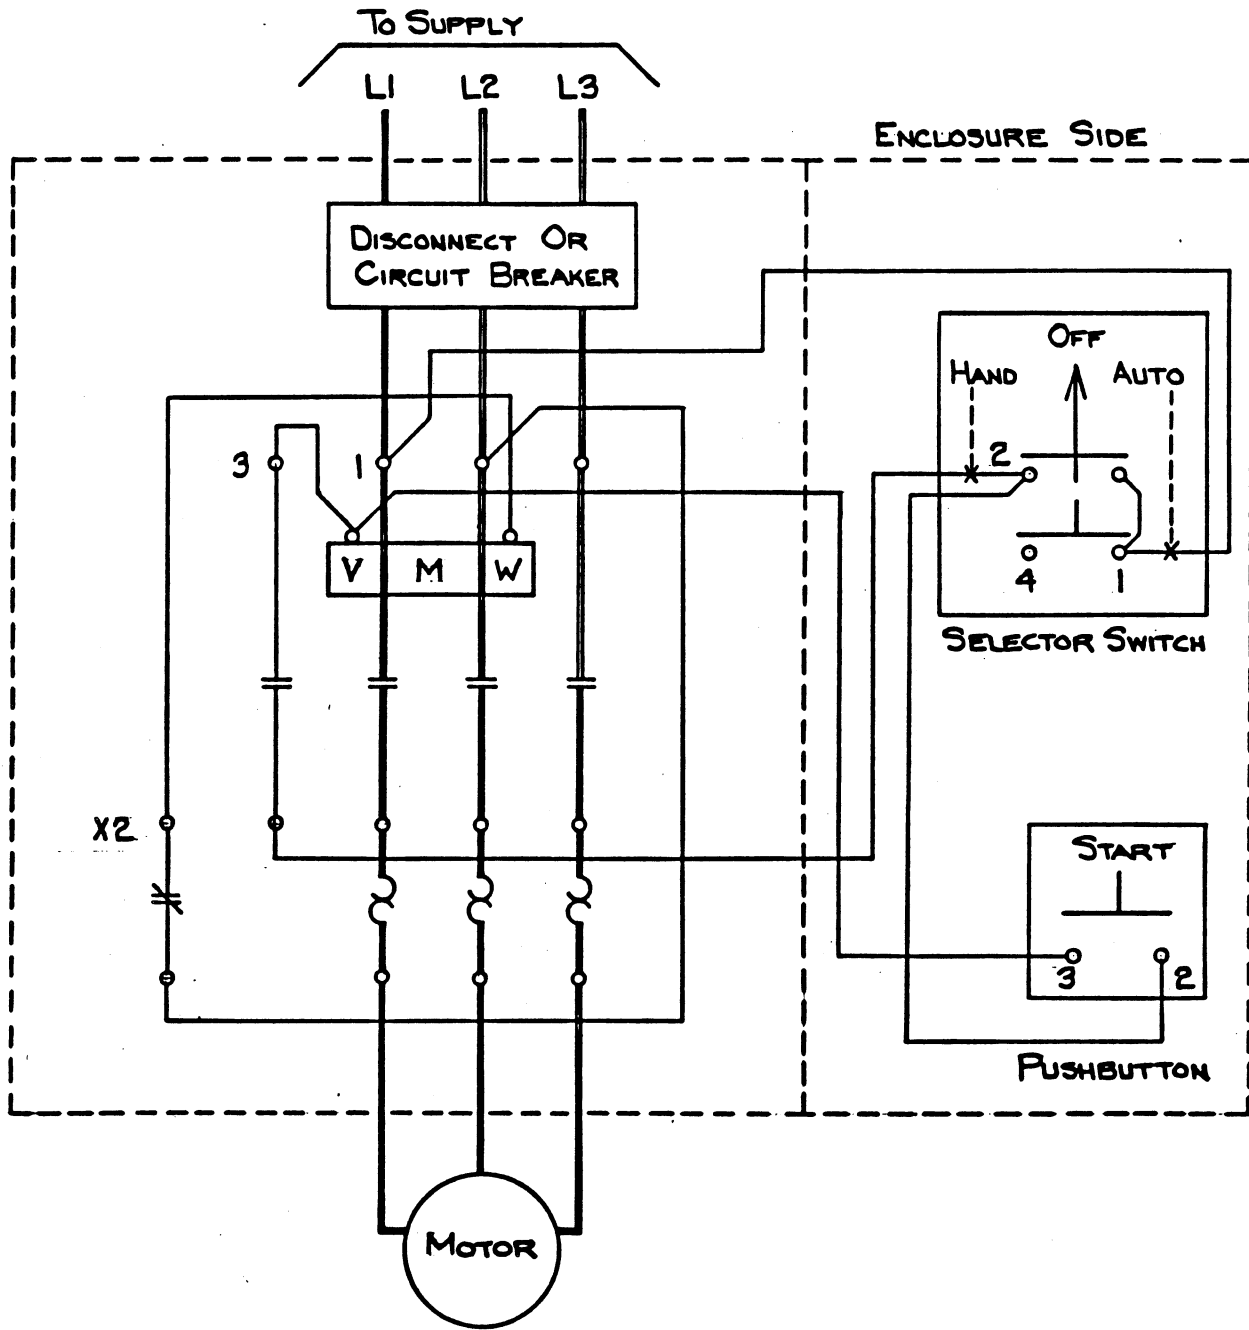
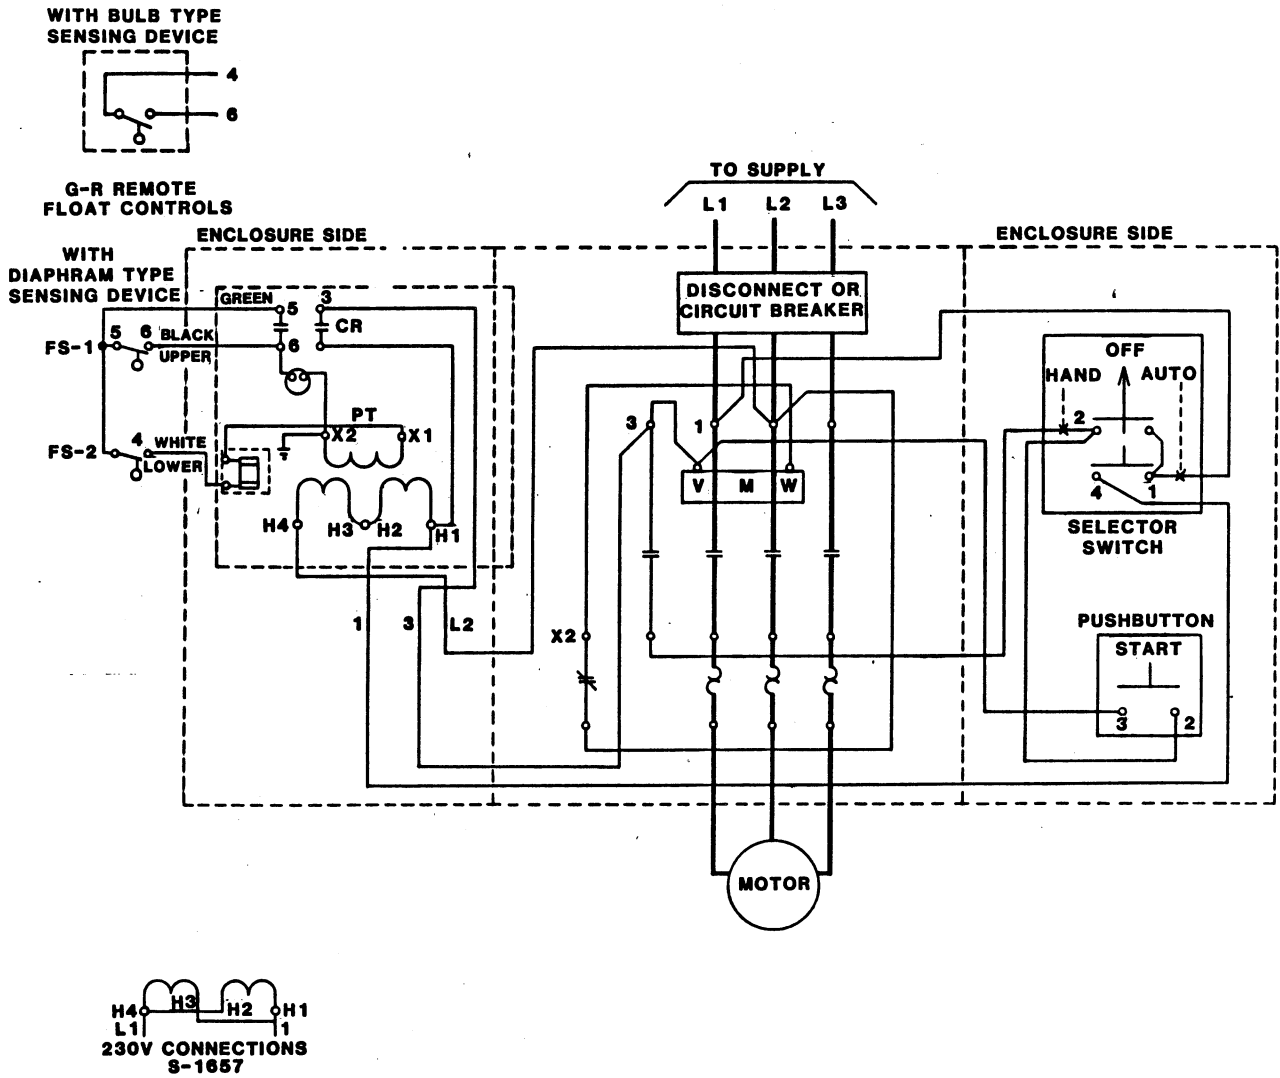

Figure 7. Control Box Wiring Diagram (Without Liquid Level Controls)
Figure 8. Control Box Wiring Diagram (With Liquid Level Controls)
- a. Measure the incoming voltage across lines (1 & 2, 2 & 3, and 1 & 3.) while the pump is **operating at full capacity**. See Figure 7 on page B-15 or Figure 8 on page B-16.
Connect the pump power cable to the control box as shown in Figure 7 on page B-15 or Figure 8 on page B-16. Use conduit or cable clamps to secure the power and accessory cables to the control box. Make certain that all connections are tight and that cable entry points are rainproof.
See Figure 8 on page B-16 for a wiring diagram including liquid level controls.